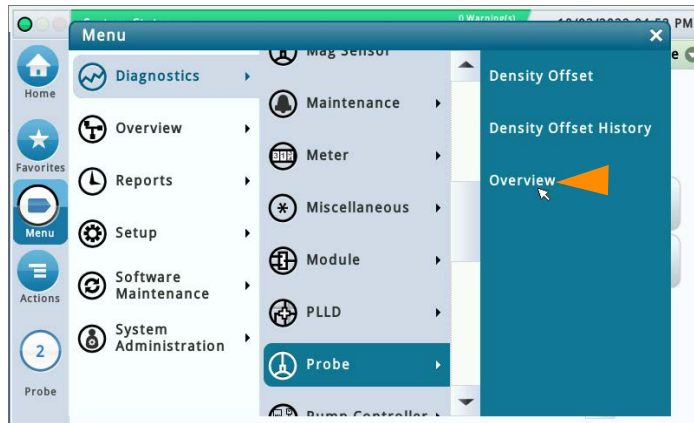
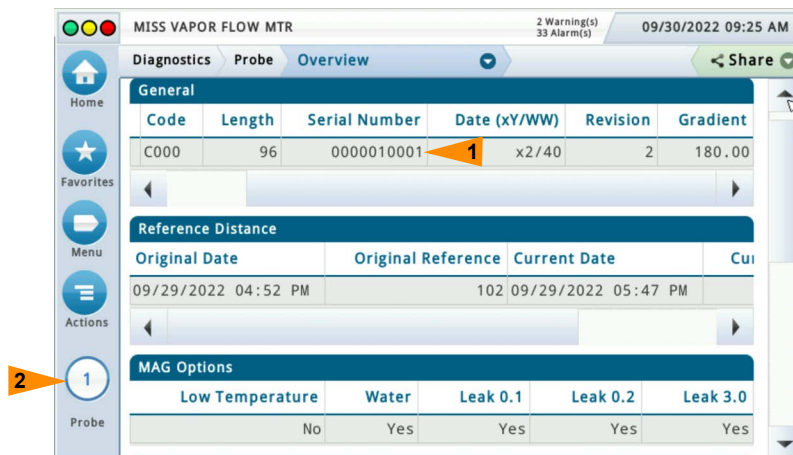
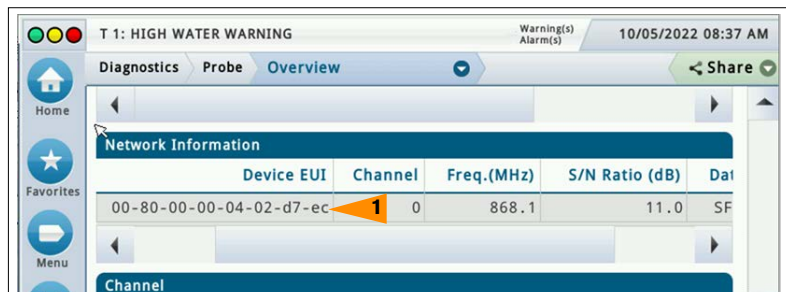

Figure 49. Accessing Probe Diagnostics Overview Screen
Figure 50. Example Probe Diagnostics Overview Screen – Page 1
Figure 51. Example Probe Diagnostics Overview Screen – Page 2
1. Select Menu>Diagnostics>Probe>Overview (see Figure 49) to access the Probe Diagnostics Overview Screen (see Figure 50 and Figure 51). Select the Probe to view information from (Item 2, Figure 50).
2. Scroll down the Probe Diagnostics Overview screen to view all of the device information fields. Note the serial number for the device (ref. Item 1, Figure 50), which maps to an Associated Device (ref. Item 2, Figure 48).
3. The Transmitter Device EUI (item 1) in the Network Information tab in Figure 51 below is found on the product information label on either the side (ref. Figure 3) or interior of the Transmitter.